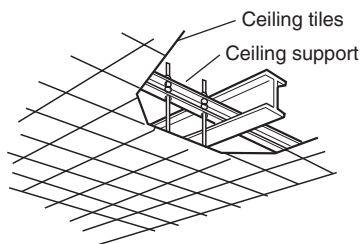

Fig. 3-4
- Use existing ceiling supports or construct a suitable support (Fig. 3-4).